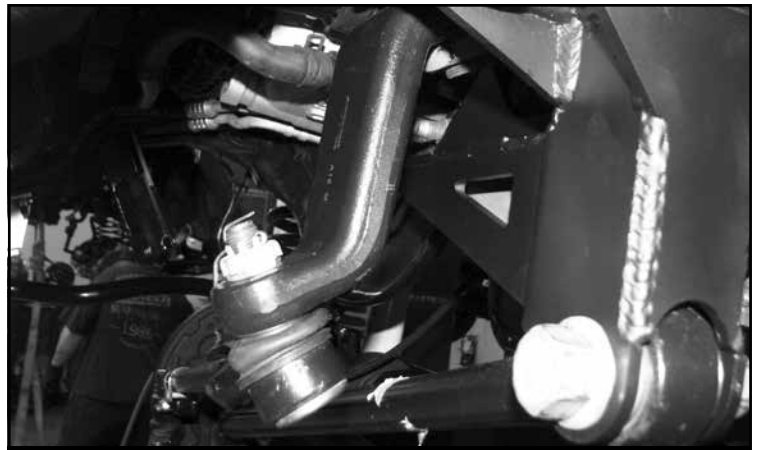

FIGURE 16 - STEP 22
22. Reinstall the track bar to the new frame bracket. Torque to 400 ft-lbs. Install the draglink to the new Fabtech pitman arm using the factory hardware and the new supplied cotter pin. **NOTE: The drag link will need to be rotated 180 degrees and installed from the bottom side of the pitman arm. SEE FIGURE 16**